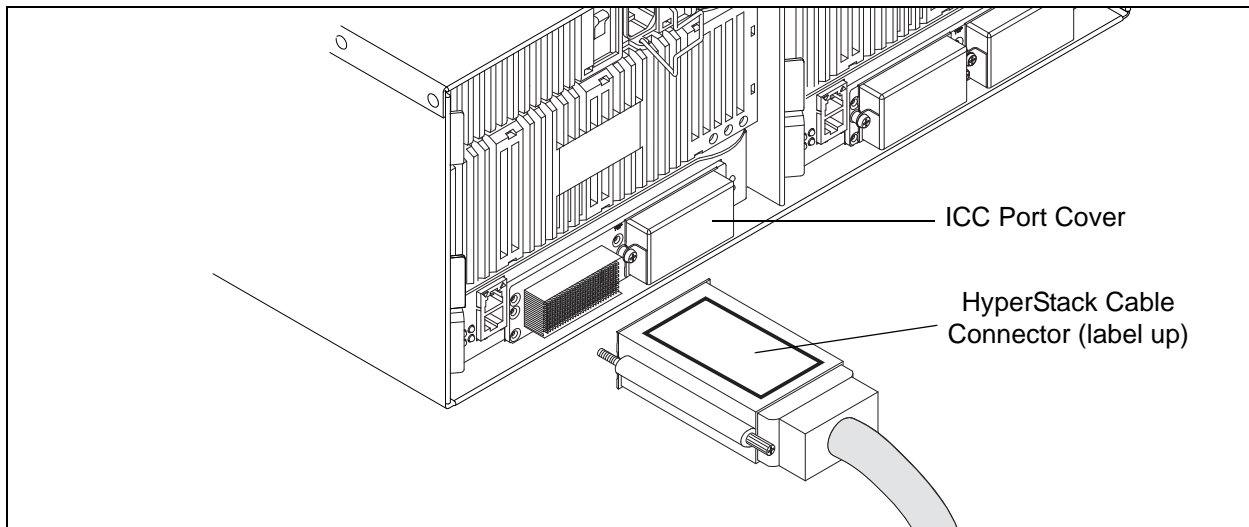

Figure 3-6 HyperStack Cable Connector
5. Use a screwdriver to remove the covers from all ICC ports. Connect a HyperStack cable to one of the ICC ports with the label side up as shown in Figure 3-6. Secure the cable connector with the captive screws.